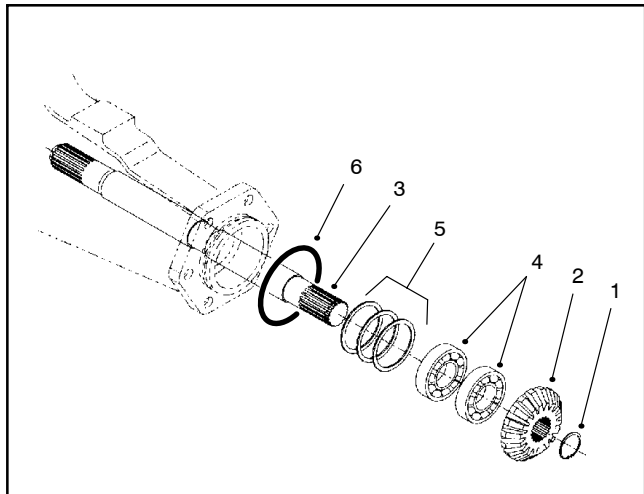

Figure 24
3. Remove the retaining ring and bevel gear (Fig 24).